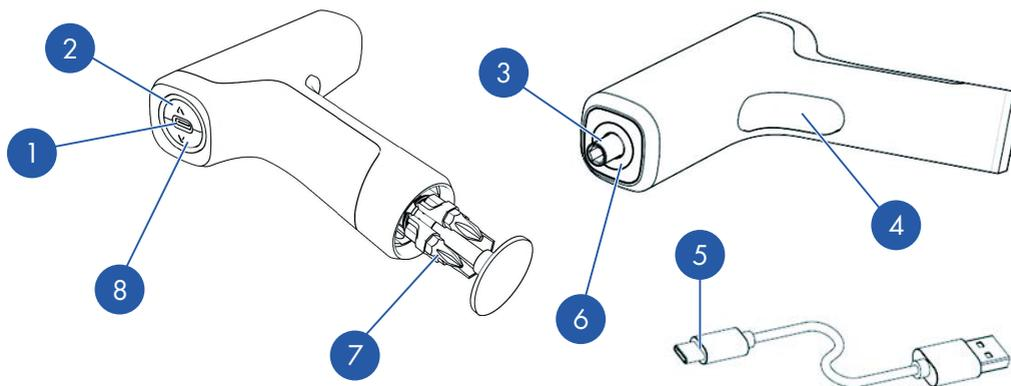
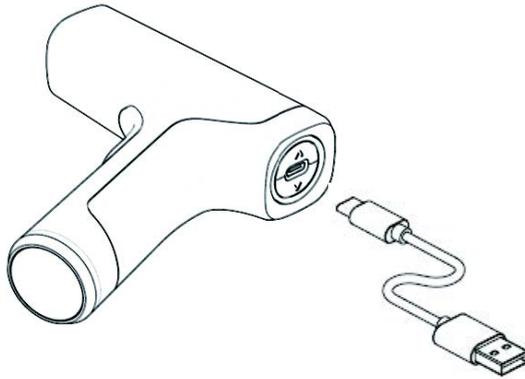

Fig. 1: Overview
Fig. 3: USB charging cord
1. To install the bits push the bit or extension rod directly into the hex drive chuck (Fig. 1/**3**) until it is installed in place.
1. Insert the charging plug (Fig. 1/5) into the charging socket (Fig. 1/1) and ensure that they are connected correctly (Fig. 3).
Backside LED (Fig. 1/8):